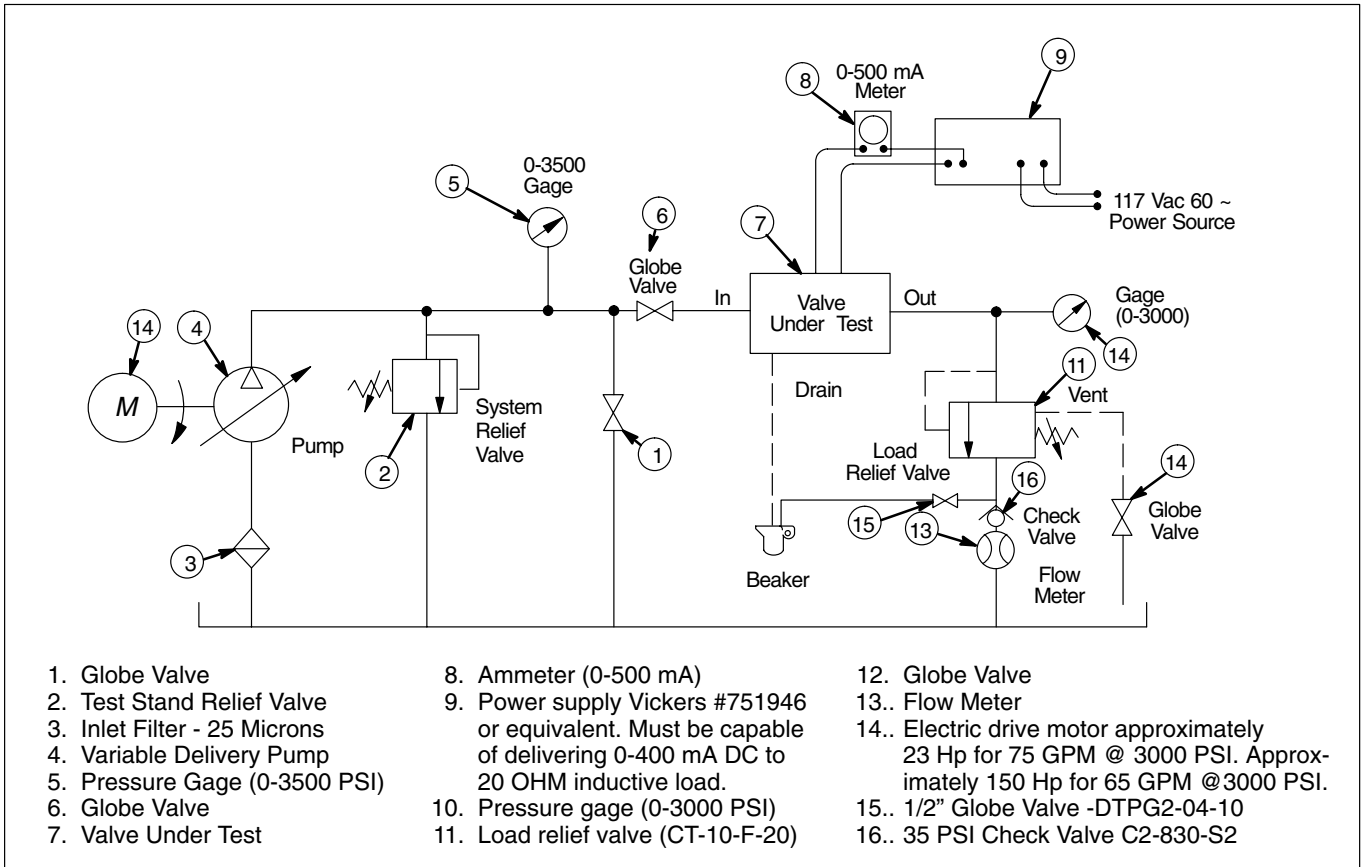

Figure 9. Test Stand for FGE-06 Flow Control Valve.
An adjustable current source from zero (0) to 400 milliamperes (mA) is required. Vickers EMCS-P-20 power supply part number 751946 is recommended. Installation information for the EMCS is shown on drawing 521555. (Power supply wiring connections are shown on Figure 9.)
A sample hydraulic and electrical circuit is shown in Figure 9. Modify an existing test stand or obtain necessary components to assemble the test circuit.
2. Connect test plate (FGM-06Y-10) to test stand and mount valve on test plate. See recommended circuit diagram (Figure 9).
3. Connect power supply (9, Figure 9) to valve as shown. The connections can be made without regard to polarity.
4. Set dither adjustment on power supply (9) to minimum.
5. Turn power supply (9) current control knob to zero (0).
6. Refer to sample test circuit Figure (9) during the following steps:
- a. Close globe valve (6).
- b. Close globe valve (1) and (15).
- c. Open globe valve (12). (Venting the load relief valve.)
g. Adjust the first stage subassembly for a 30-40 in³/minute flow from the outlet port. To measure this flow, use a beaker and open globe valve (15) shown in Figure 9. Close globe valve and cycle current from 0-400 mA three times. Recheck minimum flow to be 30-40 in³/minute. Continue adjustment and cycling until 30-40 in³/minute is obtained. Use a .094 hex key to turn adjustment screw (27, Figure 1 and 6). Replace screw and seal (1 & 2, Figure 1). Recheck drain flow to be 50-55 in³/minute.
1. Set current to 400 mA as read on the 0-500 mA meter (8). Record metered volume under the following conditions:
a. Adjust test stand relief valve (2, Figure 9) for inlet pressure shown: read gage (5, Figure 9).